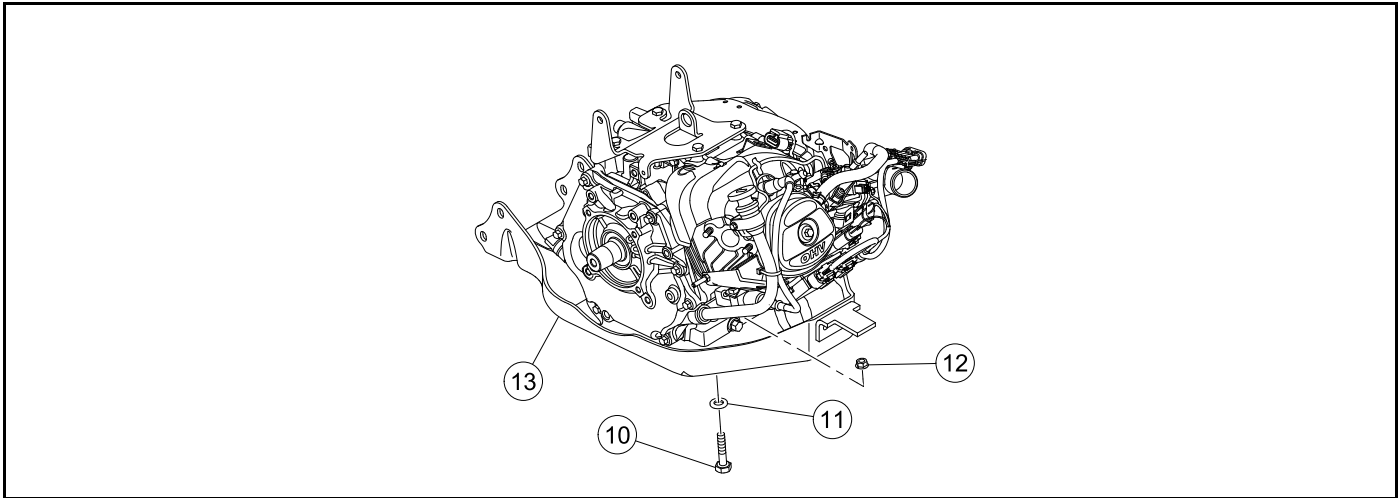

Figure 21-4 Engine Pan Removal
19. Remove the exhaust weldment (9).
20. Remove the bolts (10), washers (11), and nuts (12) (Figure 21-4, Page 21-4).